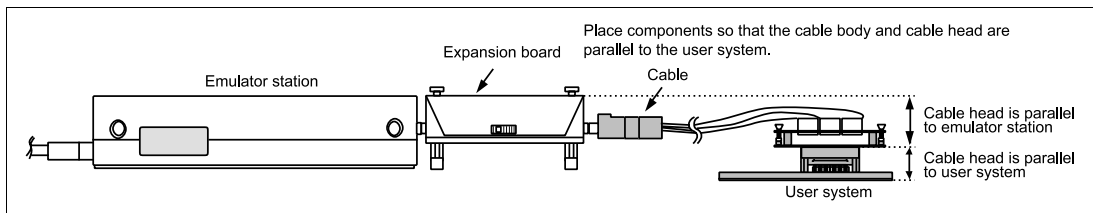

Figure 13 User System Interface Cable Location Example
4. While the emulator station is connected to the user system with the user system interface cable, force must not be applied to the cable head. Position the emulator station, user system interface cable, and user system as shown in figure 13.